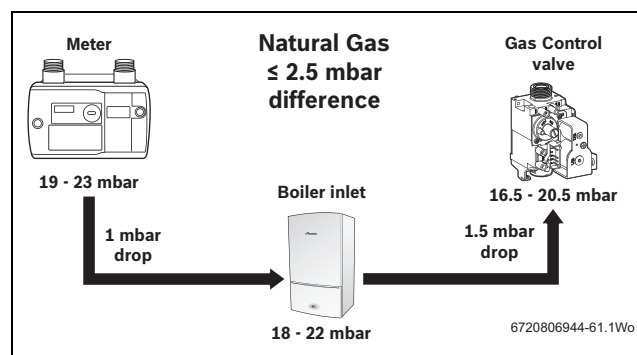

Fig. 50 Natural gas pressures
- ▶ Check the gas supply working pressure at the gas valve inlet point is no less than the values shown in figures 50 or 51.